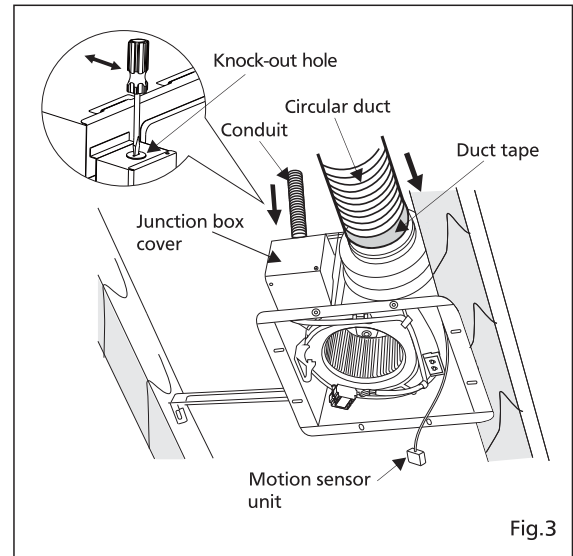

Fig.3
4. Install a circular duct and secure it with clamps, or wire ties and seal it with mastic or approved duct tape. 4 inch circular duct or 6 inch circular duct is needed to connect to relevant part of common adaptor. (Fig.3)
5. Remove junction box cover and secure conduit or stress relief to junction box knock-out hole. (Fig.3)